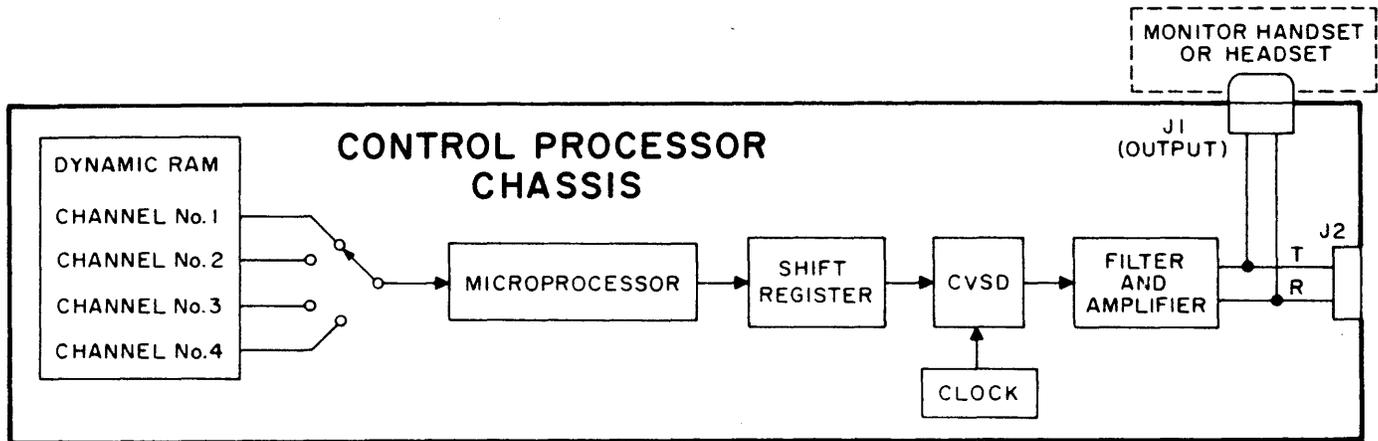

Fig. 3 - PLAYBACK Mode Block Diagram
4.13 A simplified block diagram of the multi-channel digital announcer operation in PLAYBACK mode is shown in figure 3, and explained as follows. The CVSD in the C.P. Chassis is set up to decode (D/A). With the desired channel number selected, digital data previously recorded and stored for that channel is now retrieved from Dynamic RAM in parallel form by the microprocessor, serialized in the shift register, and fed into the CVSD. The original analog signal is reconstructed by the CVSD. The analog signal is then filtered to remove the clock frequency component, amplified, and sent out to the Tip and Ring pins at the J2 interface. This output circuit is paralleled by monitor jack J1, permitting the output to be monitored by a handset or headset connected to the jack. (In PLAYBACK mode, all channels are outputted to the J2 interface for monitoring.) During playback, the digital display will show the actual message length in seconds and will countdown to zero as the message is being played.